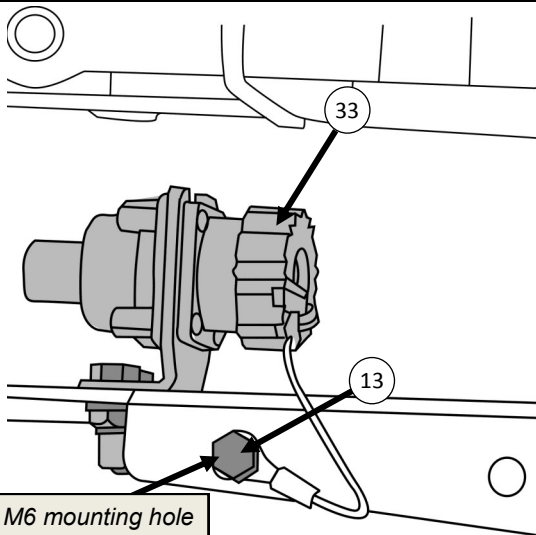

Figure 59: Install Remote Socket Lanyard
- Install Remote Socket Cap & Lanyard (Item 33) onto Bull Bar using 1X Screw M6 x 1.0P x 20 (Item 13), 1X Washer Flat M6 (Item 17) and 1X Nut Nyloc Hex M6 x 1.0P (Item 15) as shown in Figure 59.